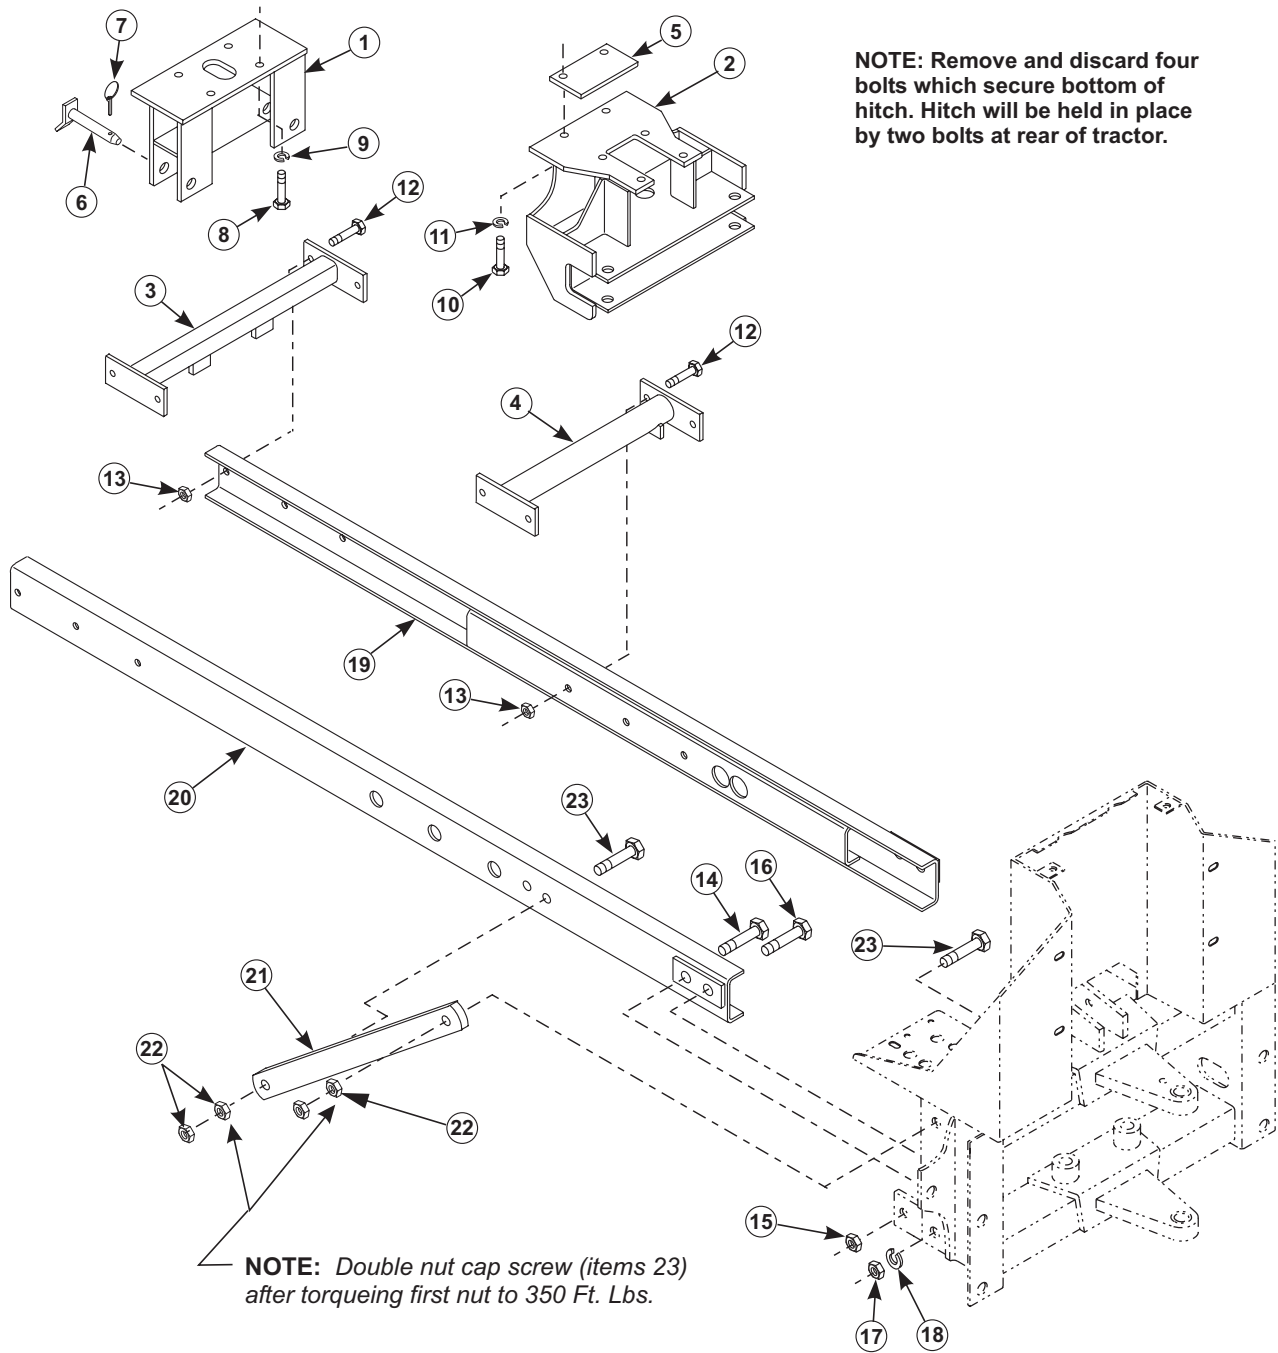

Figure 3
INSTALLING MOUNTING BRACKETS (Figure 3)
1. Install front mounting bracket (1) to underside of transmission casting using 12MM x 30MM cap screws (8) and 1/2 lock washers (9).
NOTE: Mounting bracket (1) must be turned end for end with the top plate lip to the rear on '10 series HST tractors (see figure 3).
INSTALLING SUBFRAME (Figure 3)